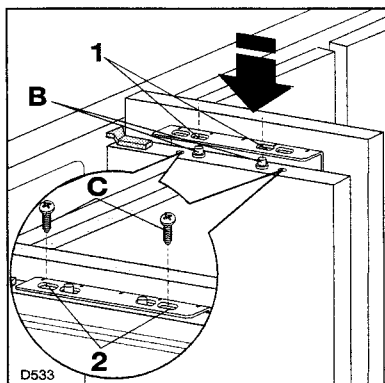

Fig. 9
Hook the decorative panel onto the top part of the door, inserting the pins (B) (on the door) into the elongated holes (1) (in the top bracket fitted to the panel) (Fig. 9).
Insert the securing screws (C) through elongated holes (2) and fix the panel without tightening the screws (Fig. 9).